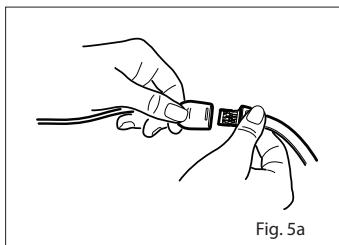

Fig. 5a
1. Refer to Fig. 5a. Orient the sensor's connector tab so that the side with the "shiny" contacts is facing up. Orient the patient cable with the color bar and finger grips facing up.